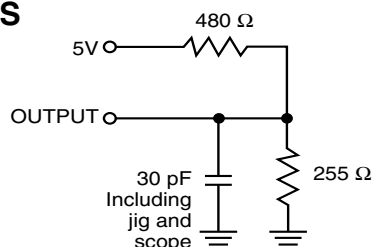

Figure 1a.
1. Test conditions assume signal transition times of 3 ns or less, timing reference levels of 1.5V, input pulse levels of 0 to 3.0V and output loading specified in Figure 1a.
Output Load	See Figures 1a and 1b